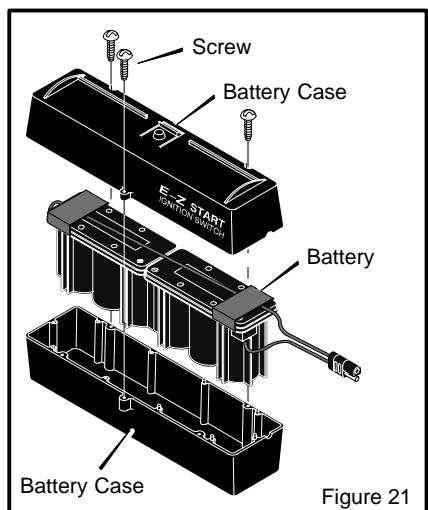

Figure 21
3. To open the **battery case**, remove the three screws. Remove the **battery** from the **battery case** (Figure 21).